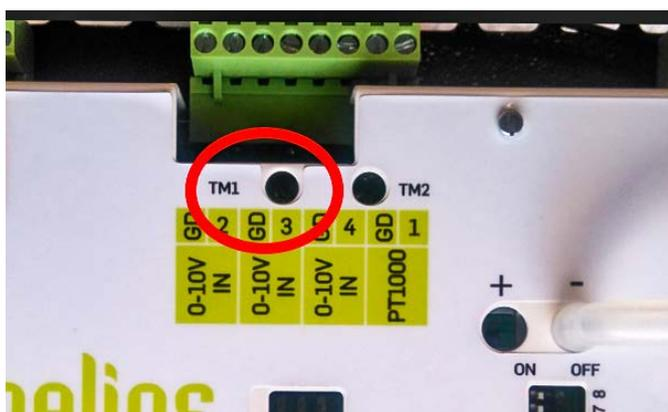

Fig. 33: a) flue fan setting: EC variant
- h) In the case of two-stage infrared heaters, the air intake is also adjusted to minimum power. Switch the infrared heater to minimum power and wait 15 minutes. Then connect the flue gas analyser and compare amount of the oxygen in the flue gas with the reading in the reduced power adjustment table. Adjust the fan power to achieve the desired oxygen amount in the flue gas. The minimum speed of the fan is adjusted by carefully turning the "minimum speed" adjusting screw on the speed controller (Fig. 33 b). If it is difficult to adjust the fan, connect a voltmeter to the fan power supply and look for minimum speed in the supply voltage range of 67-73 V. The adjustment screw is sensitive.
- j) Connect the flue gas analyser and compare amount of the oxygen in the flue gas with the reading in the reduced power adjustment table. Adjust the fan power to achieve the desired oxygen amount in the flue gas. The minimum speed of the fan is adjusted by carefully turning the “minimum speed” adjusting screw on the speed controller (Fig. 33 b). If it is difficult to adjust the fan, connect a voltmeter to the fan power supply and look for minimum speed in the supply voltage range of 67–73 V. The adjustment screw is sensitive. Before the next step, the heater must burn for at least two minutes, with the setting of the suction rose unchanged, so that the required min. under-pressure in the burner box is correctly saved.